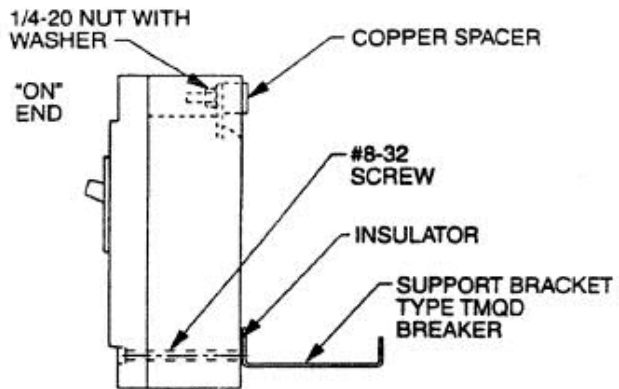
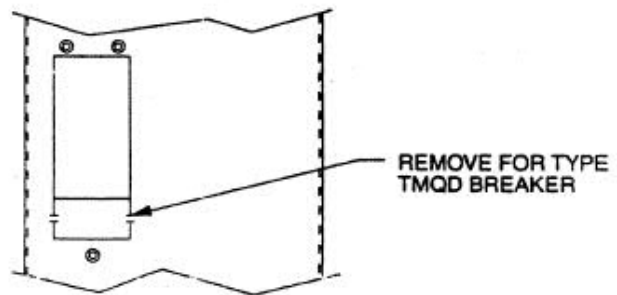

Fig. 2 TMQD Breaker Installation
Fig. 3 Twistout Illustration
3. If necessary, remove and discard the lugs from the line (ON) end of the circuit breaker.
4. Install the flat insulator from this kit over support bracket as shown in Fig. 2. The insulator has a self-adhesive backing, remove paper backing before installing.
6. Install two (2) new 11/16" long copper spacers from this kit over the 1/4" studs.
7. Rotate 180° only the bracket shaped as shown in Fig. 2. Also, remove twistout in cover per Fig. 3 at each breaker location.
8. Position circuit breaker over mounting studs as shown in Fig. 2. Assemble, but do not tighten two (2) 1/4" nuts with washers onto the mounting studs.
9. Install and tighten one (1) #8-32 screw through load end of breaker case into metal support bracket below.
10. Torque the two (2) 1/4" nuts previously assembled to 50-60 lb.-in. (F. 6-6.8 N-m).